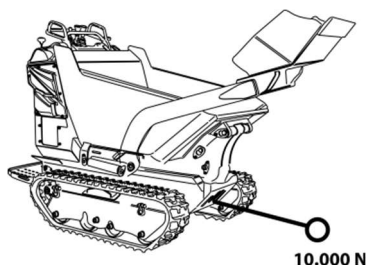

fig. 2.9 – Towing Anchor Points
**The machine is equipped with a towing hook** located on the lower front part of the undercarriage (see fig. 2.9). If towing the machine becomes absolutely necessary, **make sure to empty the load body beforehand**.